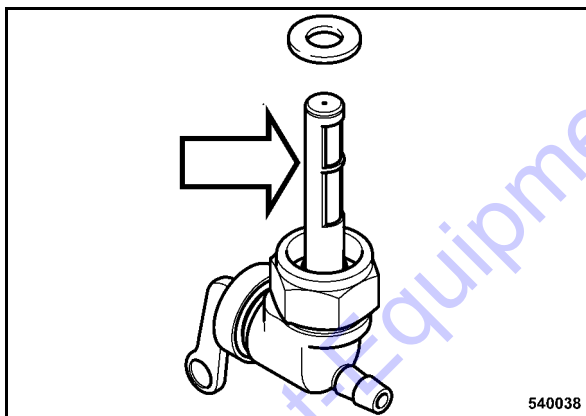

Fig. 55
- Unscrew the fuel valve (Fig. 55).